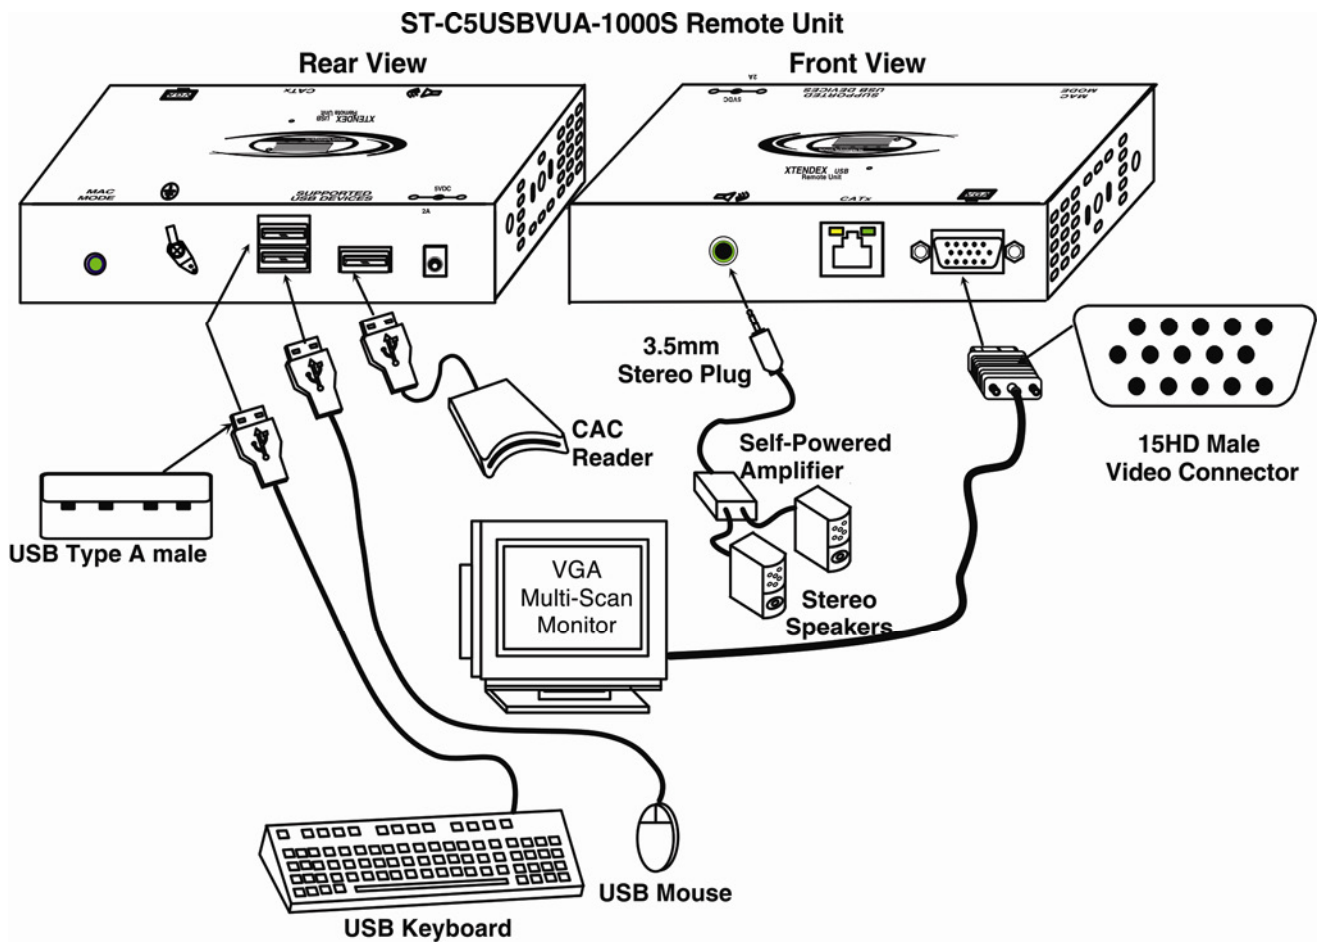

Figure 3- Connect the Monitor and Devices to the Remote Unit
Power ON the monitor(s), then the CPU. The CPU and monitor(s) should each react as if they were directly connected to each other. The yellow traffic LEDs on the Remote and Local Units (see Figure 3) will illuminate solid indicating there is proper communication between them.
2. Connect the monitor cable to the 15HD female connector on the back of the Remote Unit. (See Figure 3)